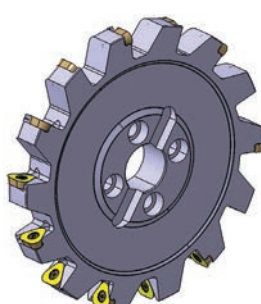

FIG 3: Radial mounting design
b) Radial mounting type with triangular inserts (Refer to FIG 3)